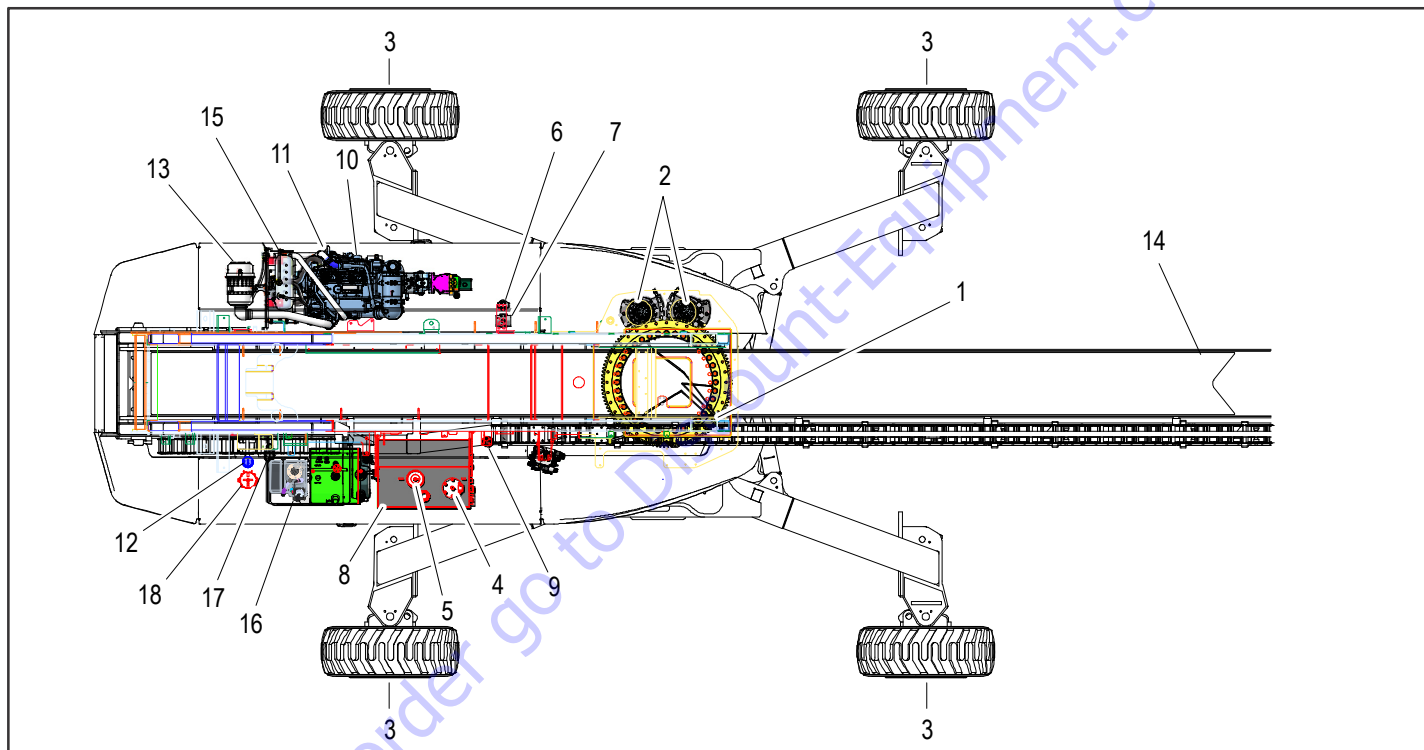

Figure 8-4. Maintenance and Lubrication Diagram
**NOTE:** The following numbers correspond to those in Figure 8-4., Maintenance and Lubrication Diagram.